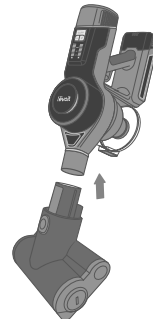

Figure 1.7
4. Slide the mini motorized brush tool onto the vacuum body to clean fabric surfaces. [Figure 1.7]